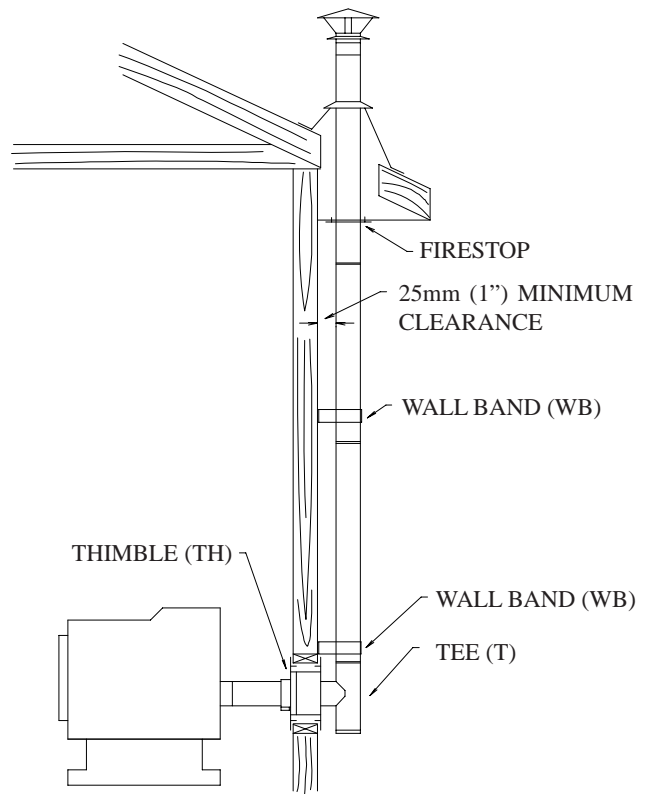

FIGURE 6
3.1 Follow instructions 2.1 to 2.7 (see Figure 6).